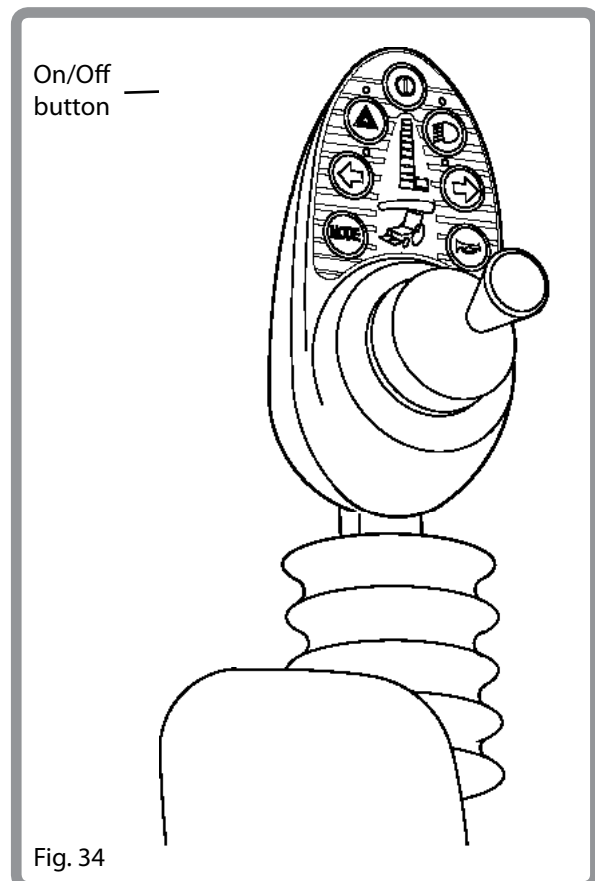

Fig. 34
1. Switch the chair on via the On/Off button (Fig. 34).